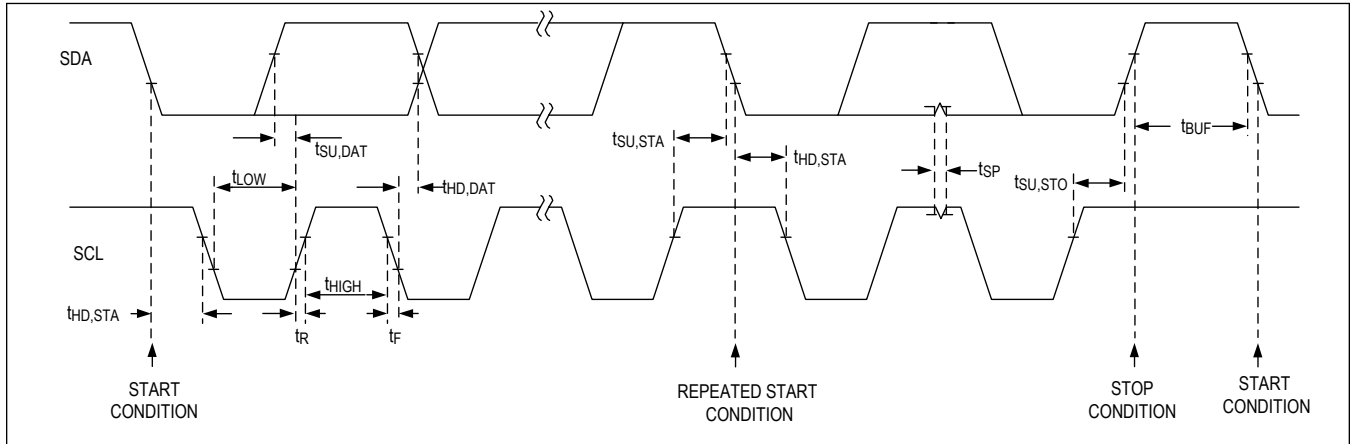

Figure 33. I²C Interface Timing Diagram
The device features an I²C-compatible, 2-wire serial interface consisting of a serial data line (SDA) and a serial clock line (SCL). SDA and SCL facilitate communication between the device and the master at clock rates up to 1MHz. Figure 33 shows the 2-wire interface timing diagram. The master generates SCL and initiates data transfer on the bus. The master device writes data to the device by transmitting the proper slave address followed by two register address bytes (most significant byte first) and then the data word. Each transmit sequence is framed by a START (S) or REPEATED START (Sr) condition and a STOP (P) condition. Each word transmitted to the device is 8-bits long and is followed by an acknowledge clock pulse. A master reading data from the device transmits the proper slave address followed by a series of nine SCL pulses. The device transmits data on SDA in sync with the master-generated SCL pulses. The master